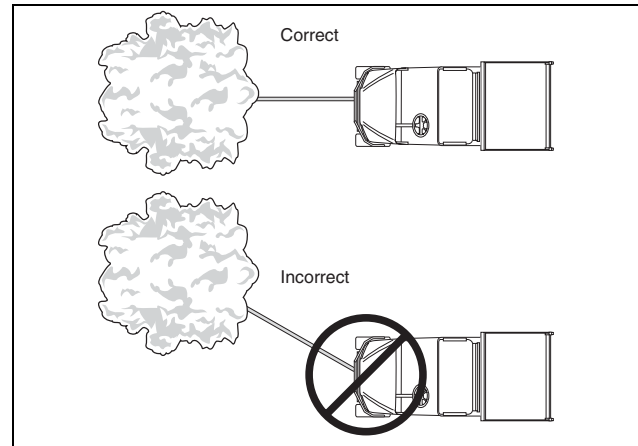

Fig. 8 Do Not Pull at Angle
**Do not pull at an angle. This will cause the wire cable to pile up on one end of the winch. This may jam the winch causing damage to the cable and/or the winch. Pulling the vehicle at an angle can cause damage to the front suspension and may cause the vehicle to overturn. When pulling vehicle, pull straight only (Ref Fig. 8 on page 3-7).**